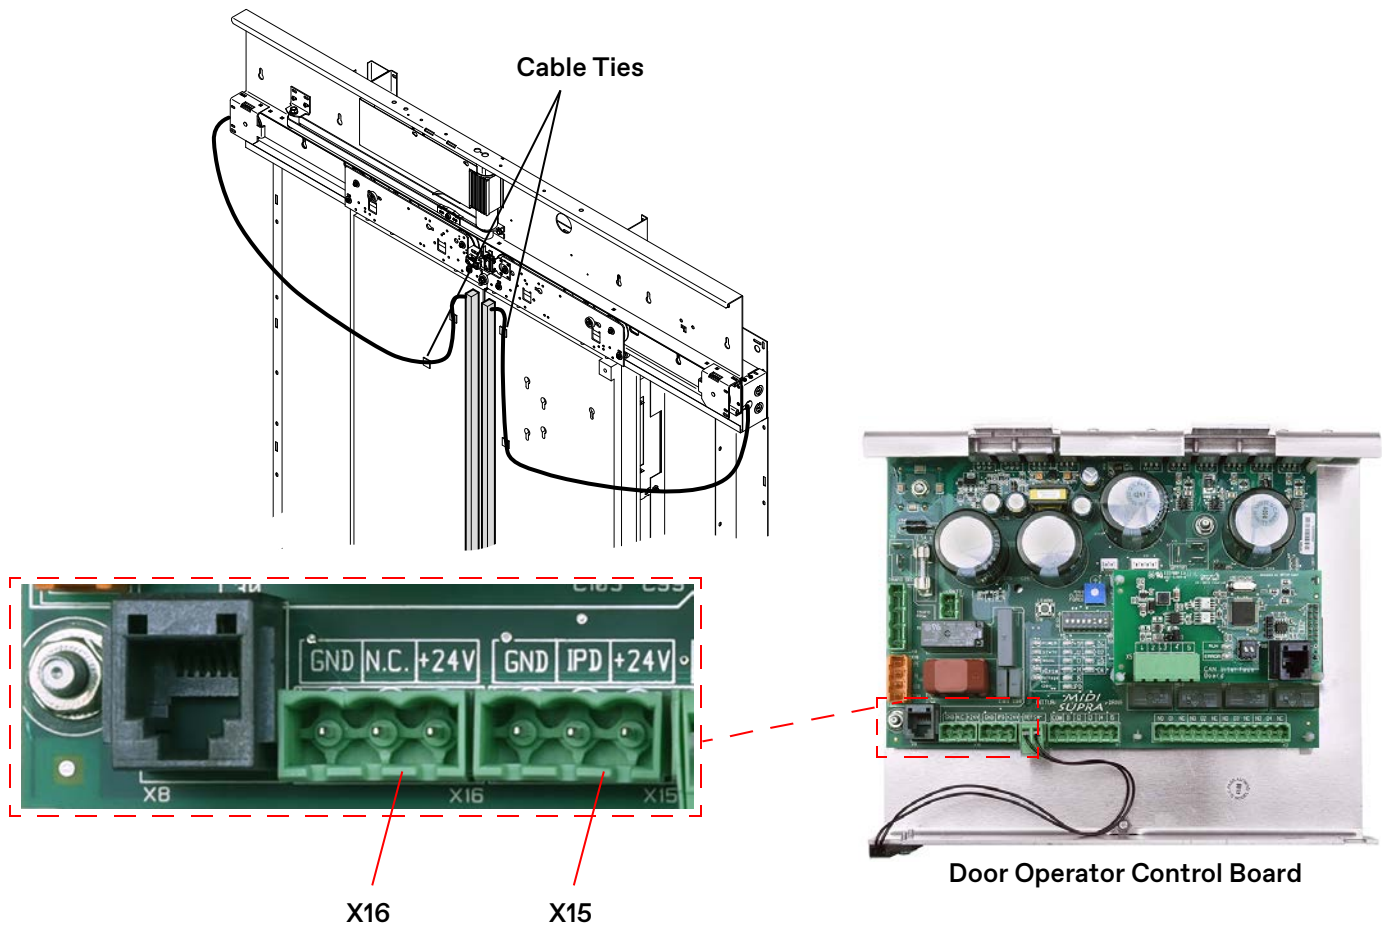

Figure 52 - Install Electronic Edge
2. Route cables—avoid tight bends and sharp edges—from the light curtain to the ends of the door track, and secure with cable ties. See Figure 52 on page 58.